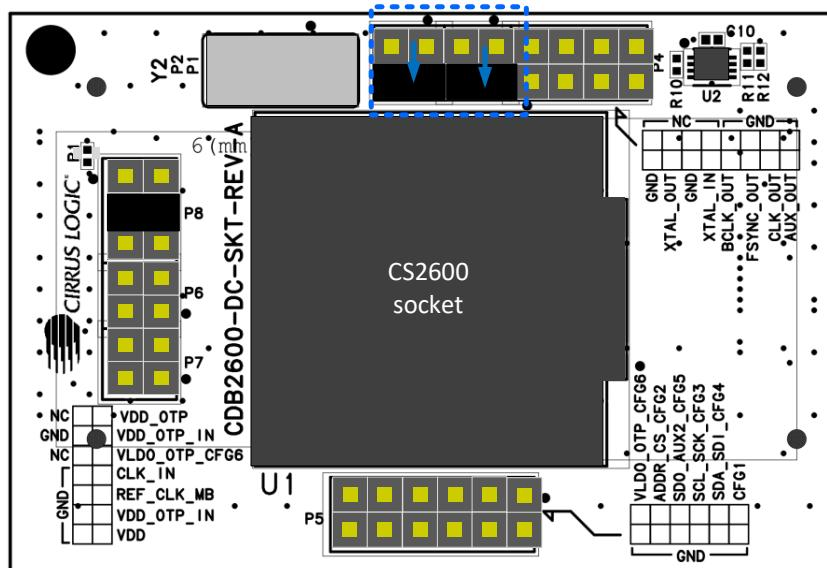

Figure 26 Daughter Card with Internal LCO as Reference Clock Option (R9)
- The REF_CLK can be provided from the internal LCO of the CS2600. This option is configured by moving jumpers P1 and P2 to positions 2 and 4. The configuration is illustrated in Figure 26.